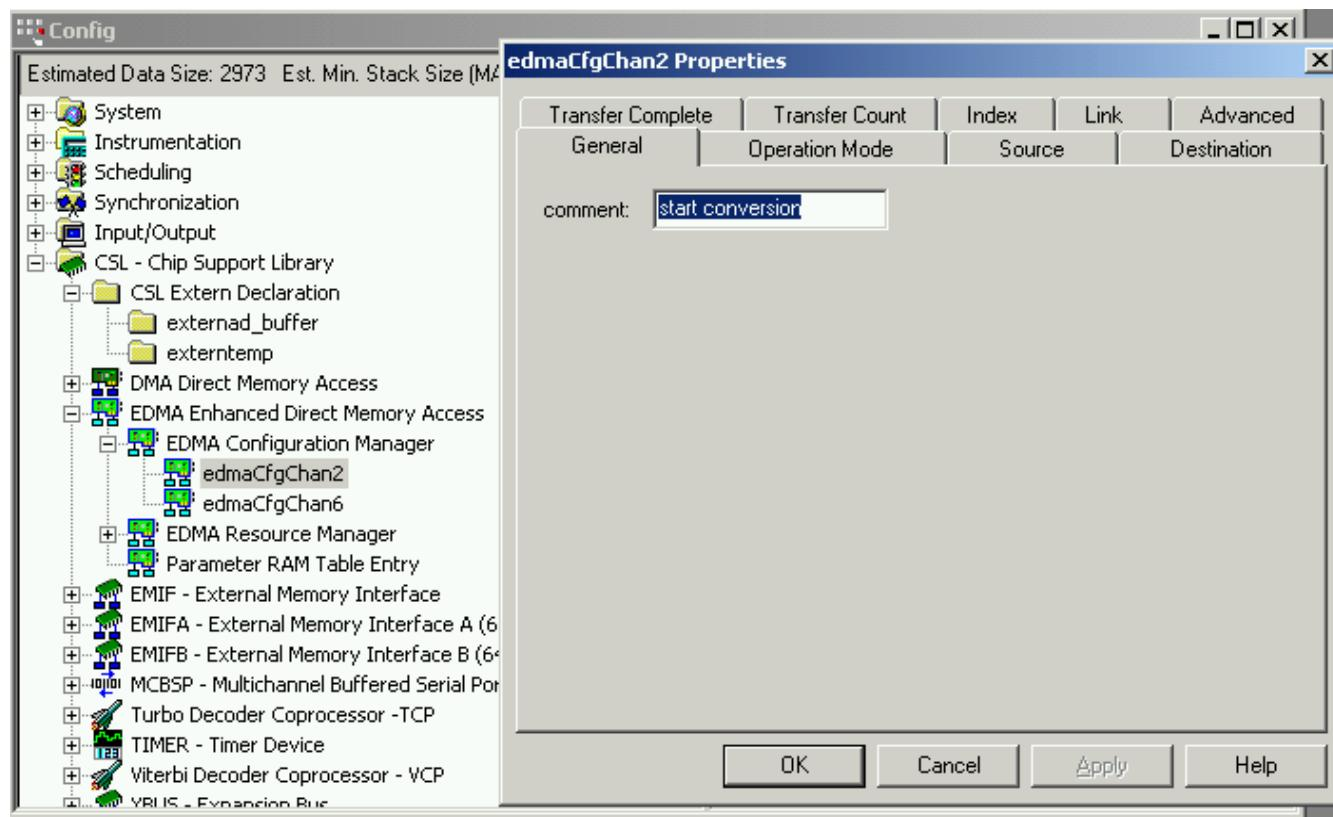

Figure 2. EDMA Chan2 General Tab
1. Expand the chip support library (CSL) module in the configuration tool. Right click and insert two edmaCfg objects. Rename those objects to edmaCfgChan2 and edmaCfgChan6 (see Figure 2).